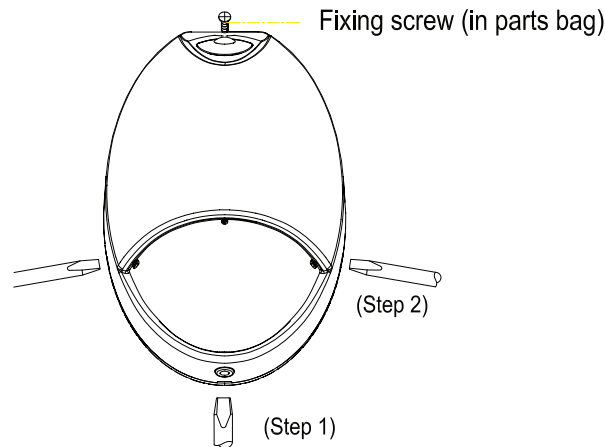

Figure 2 Wall Mount - Back Power Feed
4. For "Normally Off" standby battery backup operation only: connect the AC power as shown in Fig. 2 or 3 below and remove the jumper between terminals 1 and 2. The slide switch is defeated in this mode so it can be in either the Photo Sensor or Wall Switch positions.